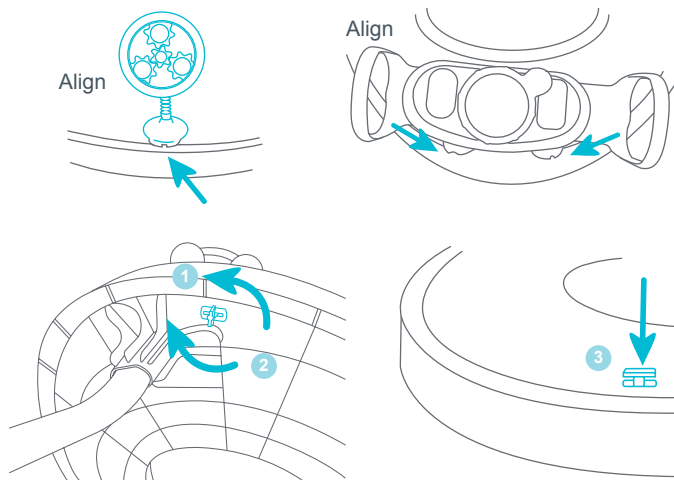

Fig. 6d
- Use the diagram below (Fig. 6d) to lock the toys onto the tabletop.
- (1) Push the tab up and rotate it left to lock.
- (2) Rotate the tab right to release the toy.
- (3) Always put the small tab lock back into the tabletop when not in use.